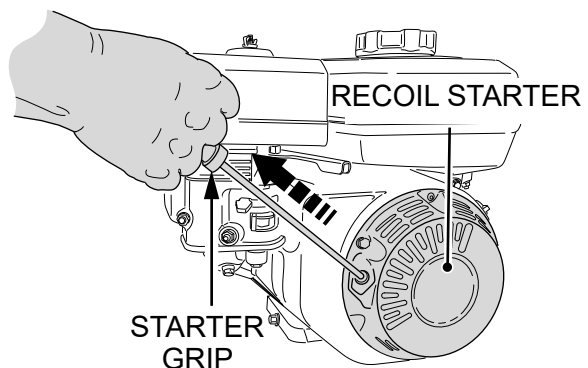

Figure 20. Recoil Start
6. Pull the starter grip lightly until you feel resistance. Then, pull it briskly in the direction of the arrow as shown in Figure 20.